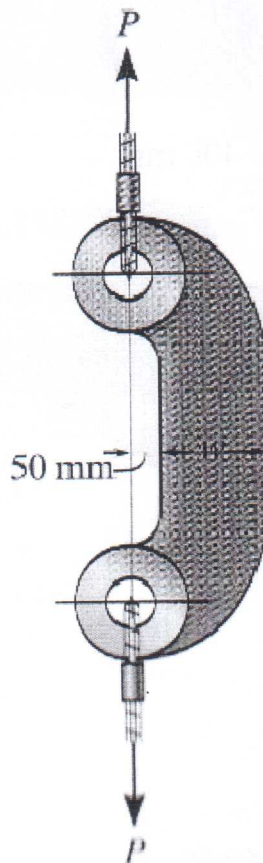

Figure 13.
(13) The offset link, shown in Figure 13, has a width of $w = 200$ mm and a thickness of 40 mm. If the allowable normal stress is $\sigma_{all} = 75$ MPa, determine the maximum load **P** that can be applied to the cables.